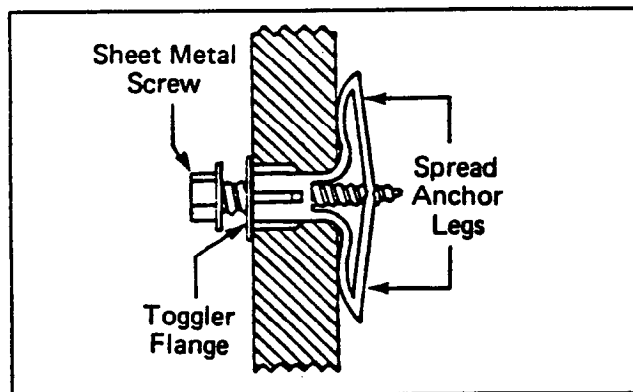

FIGURE 6—TOGGLER SCREW
01.23 Thread the screws into the small holes in the center of the togglers. Leave some clearance between the bottom of each screw head and the mounting surface (Figure 6).